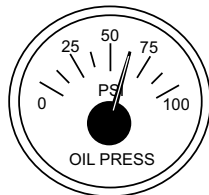

Figure 47. Oil Pressure Gauge
12. The engine oil pressure gauge (Figure 47) will indicate the oil pressure of the engine. Under normal operating conditions the oil pressure is approximately 35 to 65 psi. (193~586 kPa).